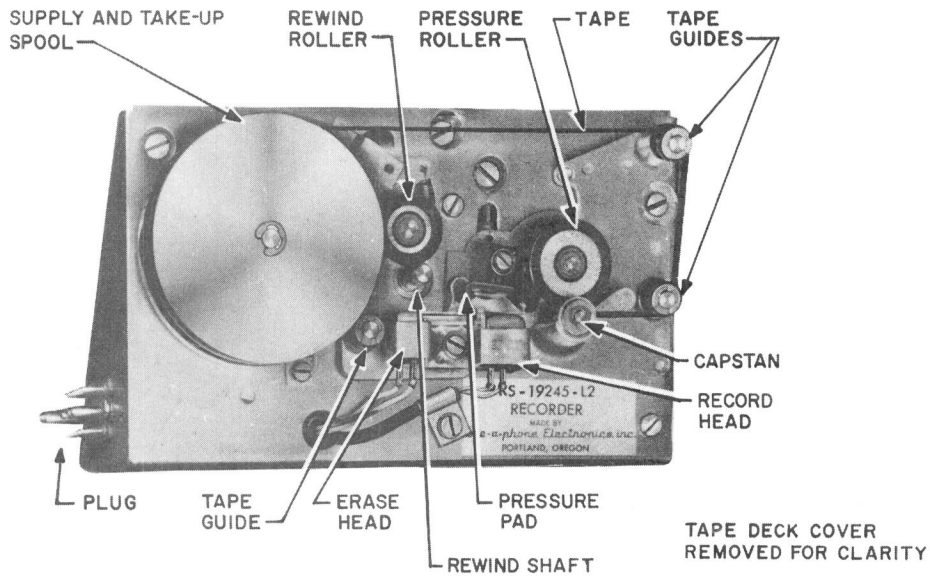

Fig. 3—KS-19245, List 2 Recorder (Reel Side)
- (a) The KS-19245, List 2 Recorder (Fig. 3 and 4) is the announcement recording mechanism. It provides a maximum recording capacity of 3 minutes, and incorporates a variable cycle feature that limits the reproduce cycle to the duration of the recorded announcement only. This recorder is equipped with 1/4-inch wide plastic base magnetic recording tape installed on special reels. The tape and reels form an integral part of the recording mechanism and **cannot** be changed by the customer since replacement of either requires partial disassembly of the mechanism. Facilities are provided for limiting the maximum recording time to 15-second increments (from 15 seconds to 90 seconds) or 30-second increments (from 90 seconds to 180 seconds). This is done by adjusting the variable limit switch assembly. The adjustment may only be made by the installer.